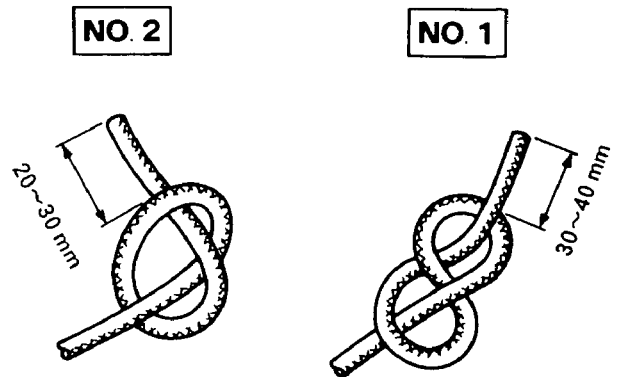

FIG. 82
(1) First, have the starter rope pass through the starting knob, and tie the rope as shown in Fig.82 No.1.
Then, have the opposite side of the rope pass through the starter case and the reel, and tie it as shown in Fig. 82 No.2. Then surely house the end in the reel. (In the Fig.82 both the ropes are tied quite lightly, as you see in figures No.1 and No.2. Please note this is just for the purpose of easy understanding. Therefore, when actually tying, tie the rope as tightly as possible.